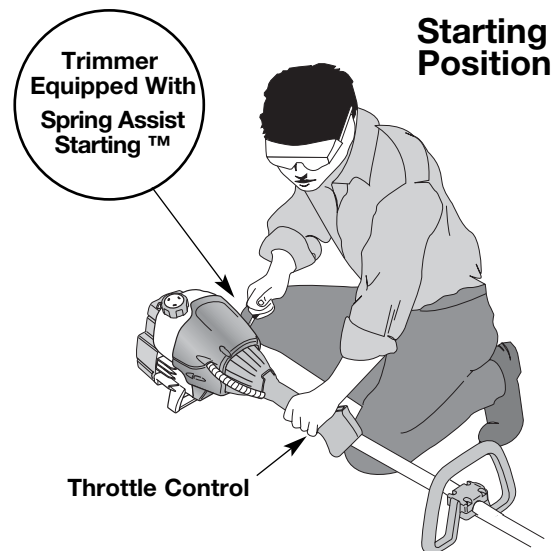

Fig. 8
**WARNING:** Avoid accidental starting. Make sure you are in the starting position when pulling the starter rope (Fig. 8). To avoid serious injury, the operator and unit must be in a stable position while starting.
4. Crouch in the starting position (Fig. 8), squeeze the throttle control, and pull the starter rope briskly 5 times.